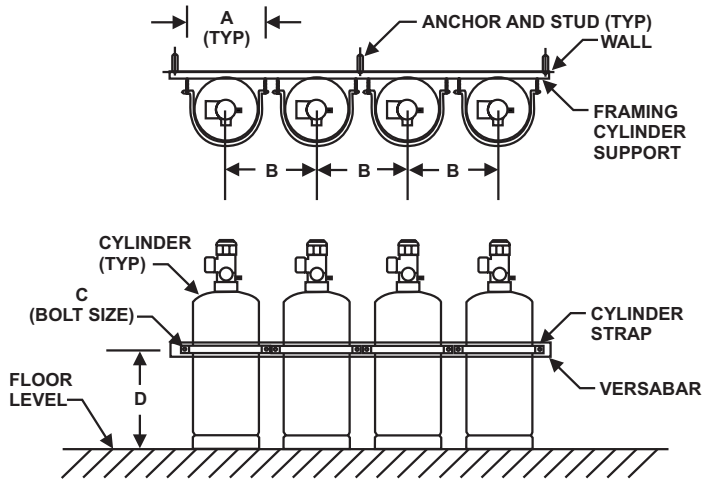

Figure 4-13. Multiple Cylinder Installation, Vertical Mounting (see Tables 4-13 and 4-14 for dimensions)
1. Position the cylinders in the designated location and secure them in place with cylinder straps and attaching hardware (see Figure 4-13 and Tables 4-13 and 4-14). Orient the cylinders so that the valve outlets are angled towards the EI-check valves in the manifold.